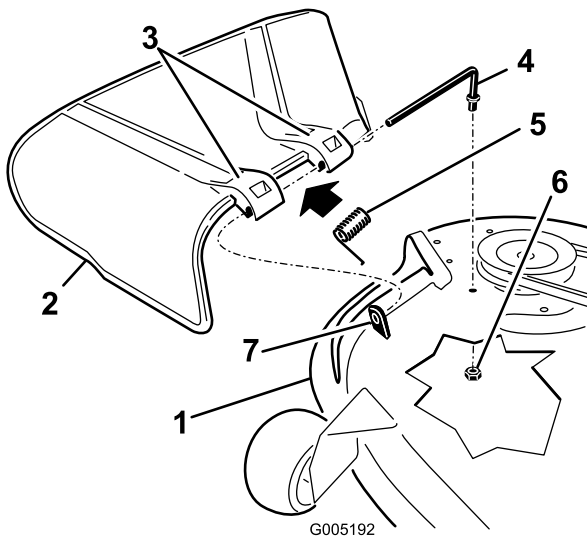

Figure 58
1. Remove the nut (3/8 inch) from the rod under the mower (Figure 58).
- Slide the rod out of the short standoff, the spring, and the grass deflector (Figure 58).
- Replace the grass deflector (Figure 58).
- Slide rod through the second grass-deflector bracket (Figure 58).
- Secure the rear end of the rod into the mower with a nut (3/8 inch) as shown in Figure 58.